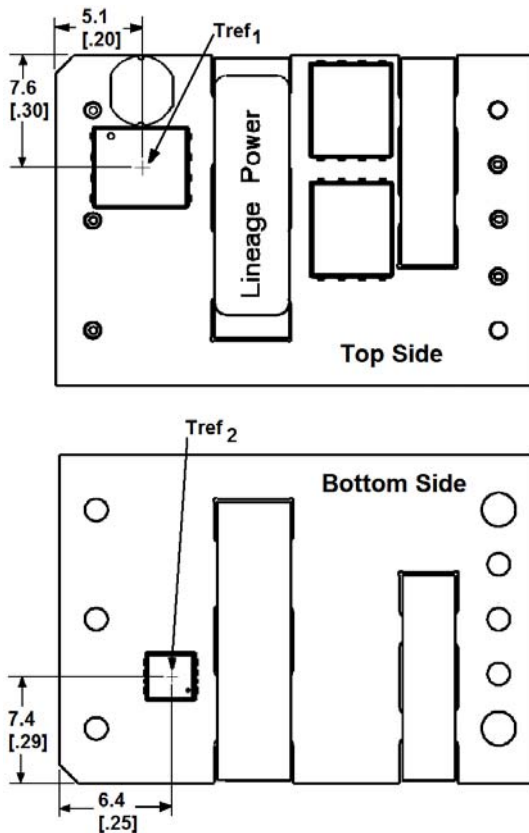

Figure 19. Trefx Temperature Measurement Location.
To provide protection under certain fault conditions, the unit is equipped with a thermal shutdown circuit. The unit will shutdown if the thermal reference point  $T_{ref}$  (Figure 19), exceeds 128-133 $^{\circ}$ C (typical) depending on  $T_A$  and airflow, but the thermal shutdown is not intended as a guarantee that the unit will survive temperatures beyond its rating. The module can be restarted by cycling the dc input power for at least one second or by toggling the remote on/off signal for at least one second. If the auto-restart option (4) is ordered, the module will automatically restart upon cool-down to a safe temperature.
The thermal reference points,  $T_{ref,x}$ , used in the specifications are shown in Figure 19. For reliable operation, the temperature of both  $T_{ref}$  points should not exceed 125°C.